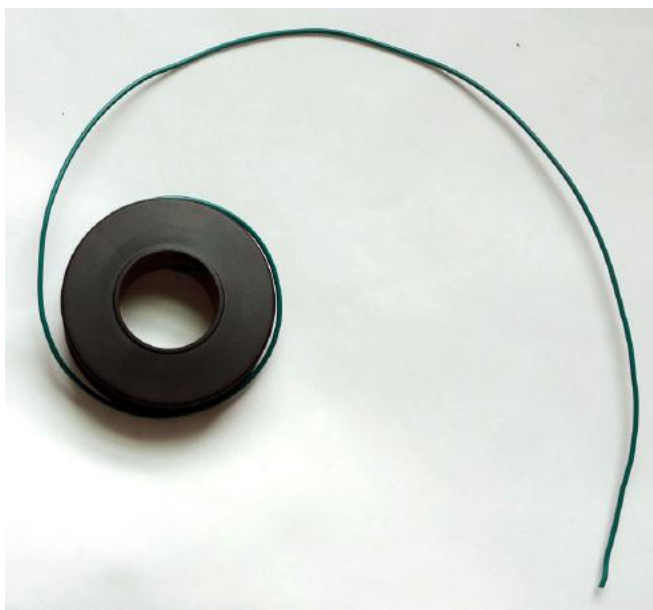

Figure 4-2. Solid core wire, used as the “antenna” for the EMI detector.
Step 1 Cut a three-foot long piece of solid core wire (Figure 4-2).